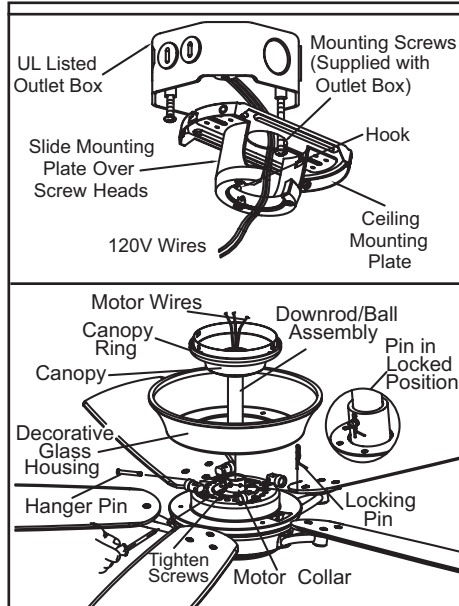

Figure 9
3. Route the wires exiting the top of the fan motor through the decorative glass housing. Then route the wires through the canopy ring and then the canopy. Continue by routing the wires through the ball/downrod assembly (Figure 9).
5. Align the holes at the bottom of the downrod with the holes in the collar on top of the motor housing (Figure 9). Carefully insert the bolt through the holes in the collar and downrod. Be careful not to jam the bolt against the wiring inside the downrod. Insert the clevis pin through the hole near the end of the hanger pin until it snaps into its locked position, as noted in the circle inset of Figure 9.
1. Pass the 120-volt supply wires through the center hole in the ceiling mounting bracket as shown in Figure 9.
2. Install the ceiling mounting plate on the outlet box, sliding the mounting plate over the two screws provided with the outlet box (Figure 9). If necessary, use leveling washers (not included) between the mounting plate and the outlet box. Note that the flat side of the mounting plate is to be toward the outlet box.